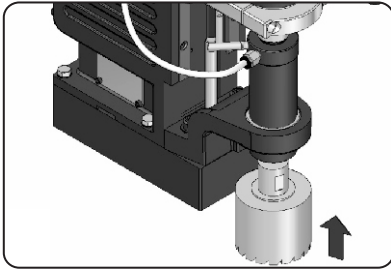

Fig. No. 7
- B. Insert cutter into drill spindle with the two flats of the cutter aligned with grub screws (Fig No. 7 & 8). Make sure the center pin is inserted into the cutter.